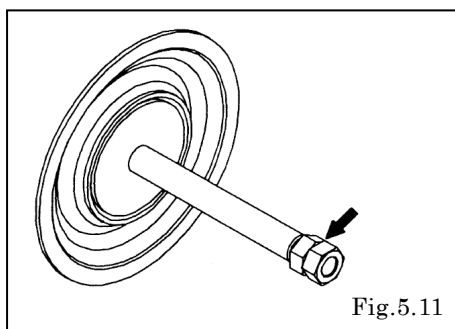

Fig.5.11
- Remove the other diaphragm by using a double nut, then take the diaphragm, the center disk and cushion out of the center rod [Fig.5.11].